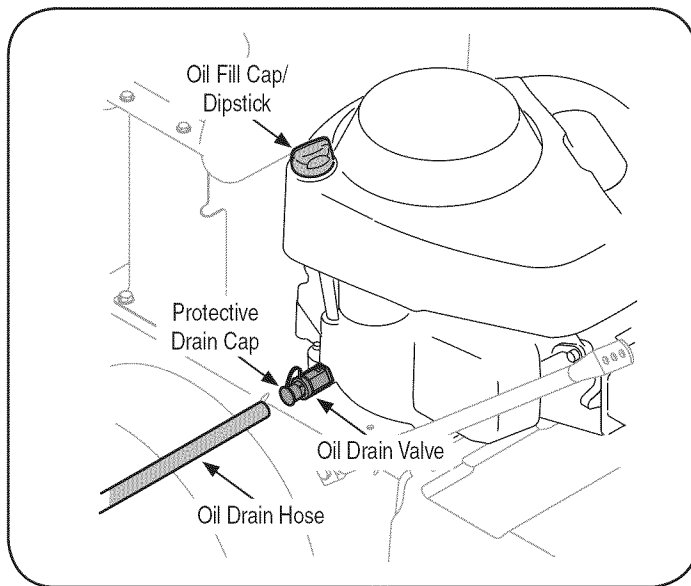

Figure 12
2. Pop off the protective cap on the end of the oil drain valve to expose the drain port, Figure 12.
3. Remove the oil fill cap/dipstick from the oil fill tube, Figure 12.